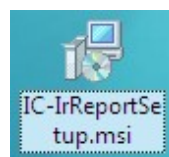

Fig. 1.2.1
- Find the installation program (see Fig. 1.2.1) and double click the program file icon;